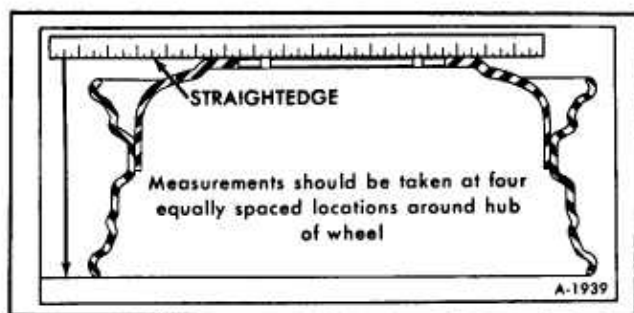

Figure 13—Wheel Checking Diagram
7. A dismounted wheel may be checked for side wobble by placing a straight-edge on face or hub of wheel. Measure distance from straight-edge to edge of wheel rim, this should be checked at four equally spaced locations. If distance is the same at all positions wheel is not distorted. (See figure 13) A dismounted wheel may also be checked for radial, and lateral run-out if desired, by temporarily mounting it to a hub on vehicle. Follow the previous Steps 2, 3, 4, and 5.